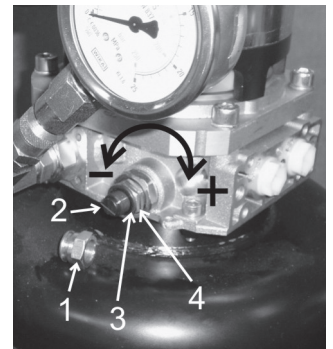

Fig. 3.1.a
If the load on the motor or cylinder should increase excessively (for example, when furling the genoa without slackening the sheet), the pressure in the system increases. When it has reached the set value, the pressure relief valve opens and the oil is pumped directly back to the tank. The valve is also called the system pressure valve or the working pressure valve. The adjacent picture shows the adjusting screw (2) with the cap nut (1) removed. Also shown in the fig. 3.1.a are the sealing washer (3) and locking nut (4).